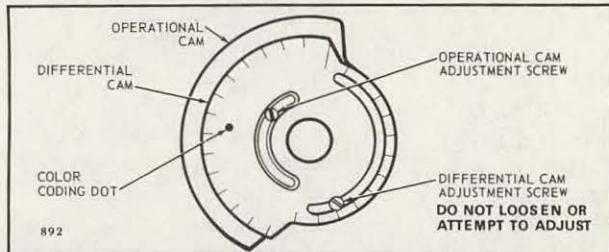

FIG. 17—SWITCH CAM MAY BE ADJUSTED TO OPERATE THE SWITCH DURING ANY PART OF THE STROKE.
3. With the motor in the normal position, loosen the adjustment screw for the operational cam. See Fig. 17. Using the 10-degree marks on the cam and a fixed point such as the cam roller for a guide, rotate the cams clockwise  (counterclockwise  for normally open motors) through an arc equal to the number of degrees the motor should travel before switch operates. Tighten the operational cam adjustment screw.